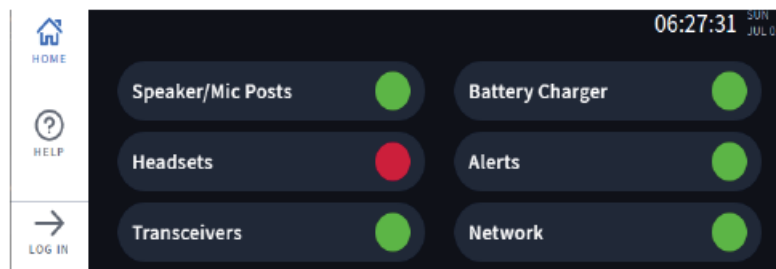

Fig. 5
14. The RT7000 is now operational. The Base Station HOME screen also provides a color-coded visual status (see "Transceivers" status in Fig. 5).